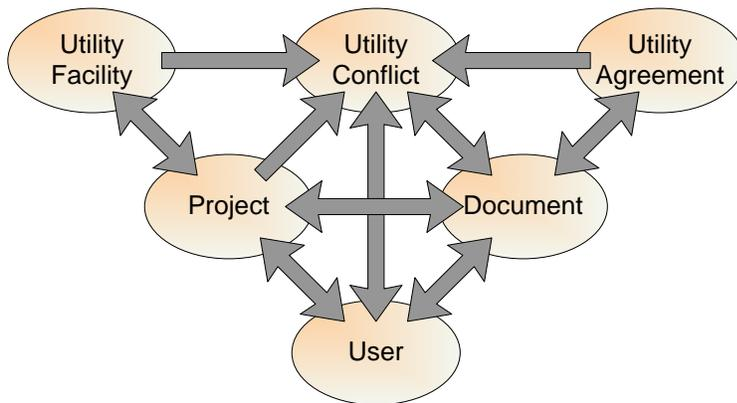

Figure 3. Conceptual Model for the Management of Utility Conflicts
Conceptually, the database enables the management of six groups of data that are related to utility conflict information: utility conflict, utility facility, utility agreement, document, project, and user. Figure 3 provides a generalized depiction of these six data groups, along with arrows that represent high-level relationships between data group pairs. Each oval in Figure 3 represents a large number of entities or tables that are needed to manage a specific piece of information. For example, the Utility Conflict group contains close to 20 entities or tables that are needed to manage utility conflict data along with several connecting tables that facilitate relationships to other data groups. The model structure is modular, which means that individual data groups could be replaced by existing data systems at the agency, e.g., in the case of the Project, Document, or User groups.
- Use of information engineering (IE) notation to model entity relationships.
- Modular structure based on the six data groups in the conceptual model in Figure 3, with a core entity per data group.